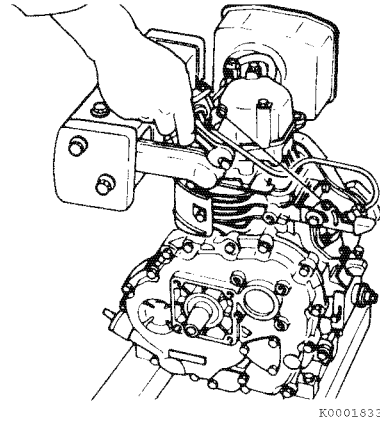

Figure 6-36
8. Remove the exhaust muffler (**Figure 6-36**).